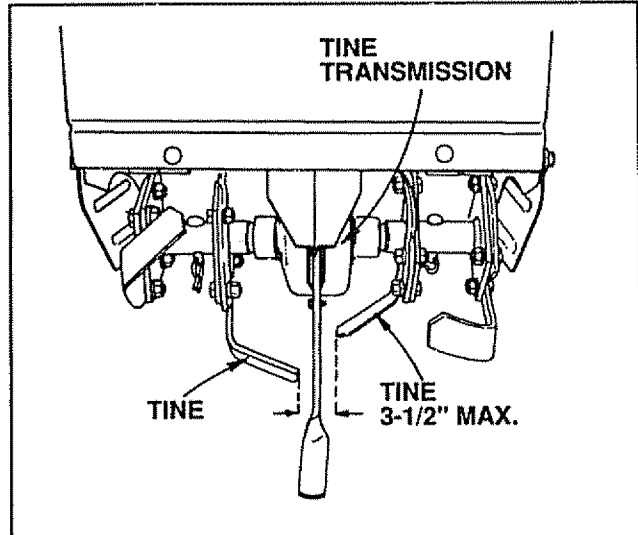

FIGURE 31
- To maintain the superb tilling performance of this machine the Tines should be checked for sharpness, wear, and bending, particularly the Tines which are next to the Transmission. If the gap between the Tines exceeds 3-1/2 inches, they should be replaced or straightened as necessary (Fig. 31).